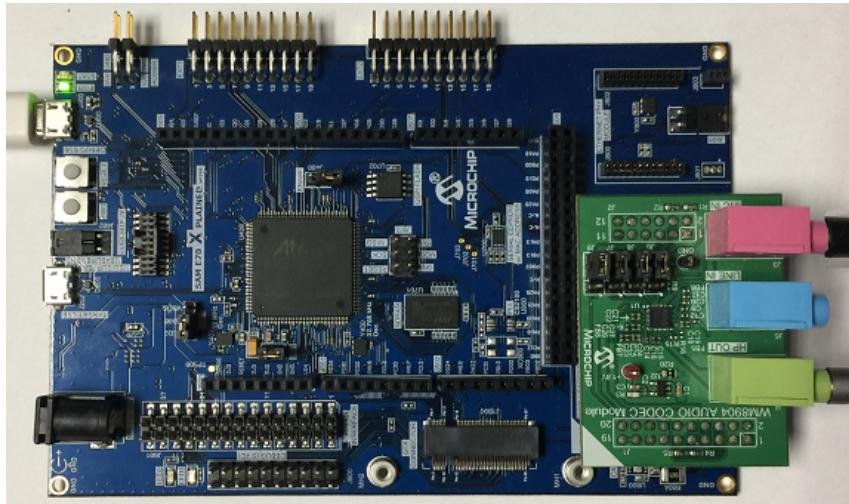

Figure 1: WM8904 Audio Codec Daughter Board on SAM E70 Xplained Ultra board
1. Connect headphones to the HP OUT jack of the WM8904 Audio Codec Daughter Board (see **Figure 1**), or the HEADPHONE jack of the SAM V71 Xplained Ultra board.
2. Connect a microphone to the MIC IN jack of the WM8904 Audio Codec Daughter Board (see **Figure 1**), or the MICROPHONE jack of the SAM V71 Xplained Ultra board.
1. Connect headphones to the HP OUT jack of the WM8904 Audio Codec Daughter Board (see **Figure 1**).
2. Connect a microphone to the MIC IN jack of the WM8904 Audio Codec Daughter Board (see **Figure 1**).